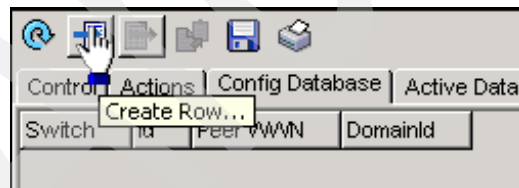

Figure 28 Create new fabric binding entries
1. Click the **Create Row** icon at the top of the pane as shown in Figure 28.